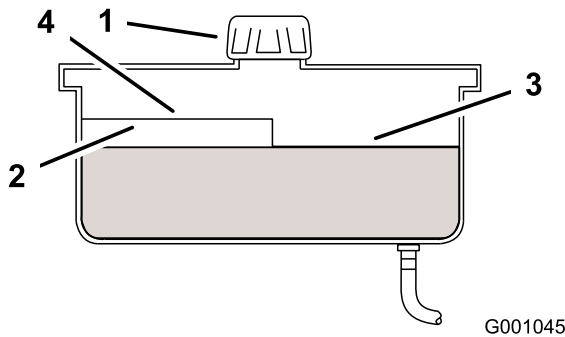

Figure 76
2. Clean the area around filler neck of hydraulic tank (Figure 76).
3. Remove the cap from the filler neck. Look inside to check if there is fluid in the reservoir (Figure 76).
- Note:** The fluid level should be to the top of the hot level of the baffle, when the fluid is hot (Figure 76).